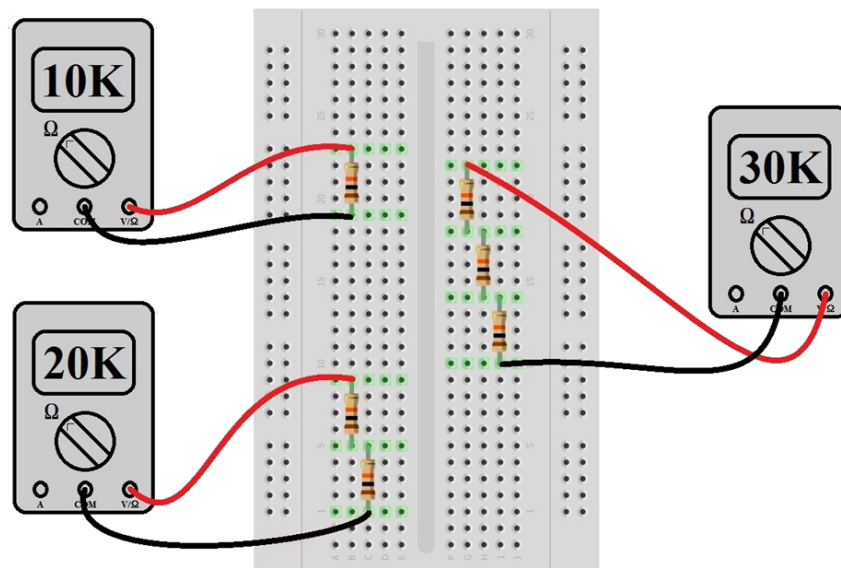
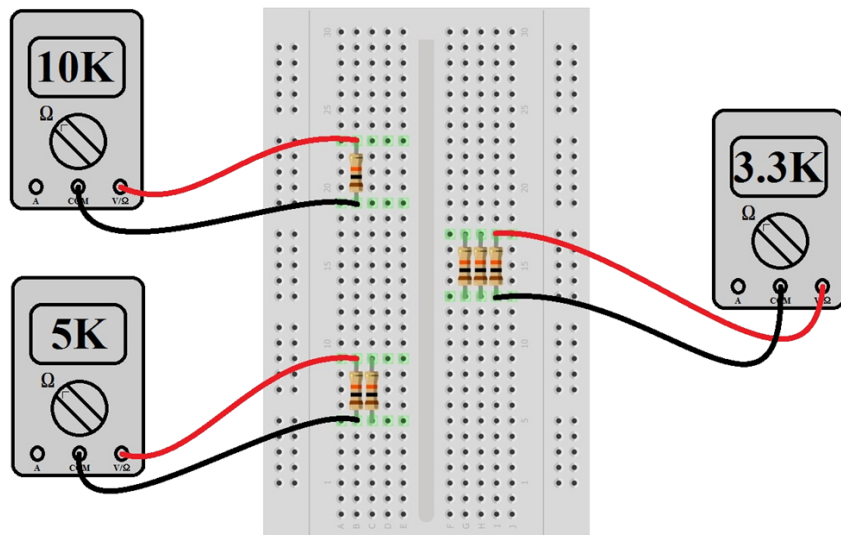

Figure 4: Measuring resistance values using 10K Ohm resistors in series
Figure 6: Measuring resistance values using 10K Ohm resistors in Parallel
- Refer to the illustration of the breadboard and the diagram showing how to connect resistors in series and parallel on a breadboard, which are both at the end of this lab (Figure 4, Figure 6).